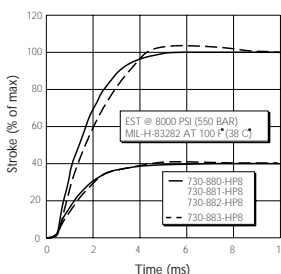

Figure 3 - Full Amplitude Step Response
**Step Response:** Typical estimated transient responses of 730-HP8 Series Servovalves are shown in Figure 3.